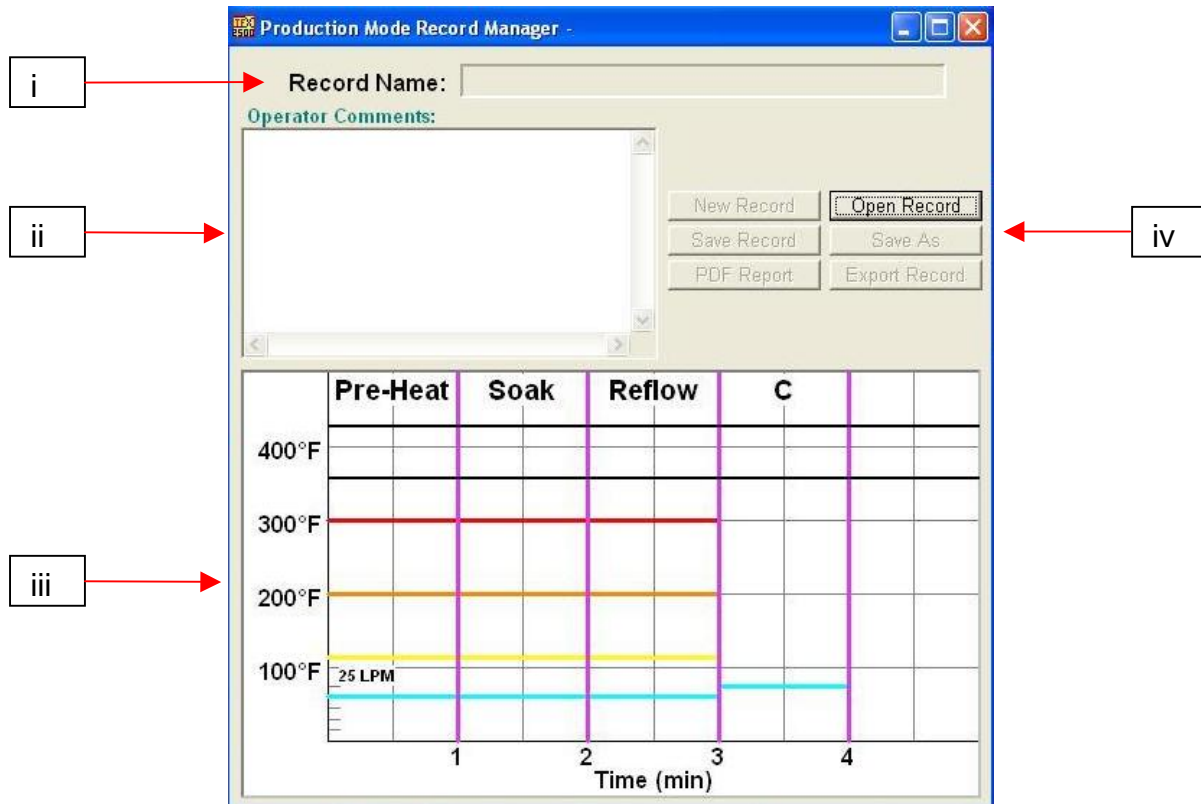

Figure 6a
- ii. Record Manager. Temperature and time setting entered by the developer can be viewed here. (Fig. 6a)
## h. Production Mode Record Manager Features (Figure 6a)